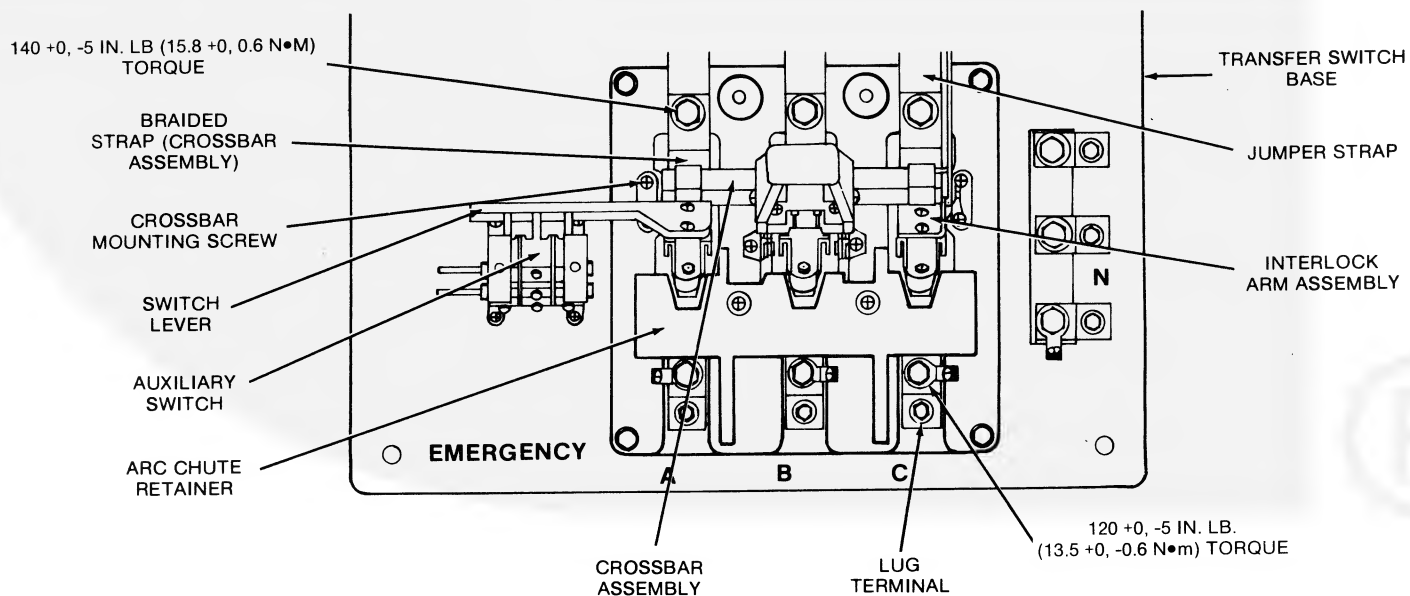

FIGURE 26. TYPICAL 100 AND 150 AMPERE OT TRANSFER SWITCH
8. Remove the normal or emergency lug terminal(s) from the contact(s) you are replacing. (Remove the wires from the lugs first if this makes it easier.) See Figure 26.
9. Remove the two long capscrews, flat washers, and ET lock washers from the arc chute retainer (Figure 26).
17. Remove the switch lever which actuates micro-switches from the crossbar assembly by taking out the two Phillips screws (Figure 26).
18. On the opposite end of the crossbar assembly, remove the interlock arm assembly by taking out the two Phillips screws (Figure 26).
19. Remove the hex head capscrews and washers so the crossbar assembly straps are loose (Figure 26).
20. Remove the crossbar assembly by taking out the eight Phillips screws (save screws). See Figure 26.
30. Install the lug terminals on the new contact straps. Make sure the strap has some antioxidant, electrical joint compound on mating surface before securing lug terminal with existing hex head bolt. Tighten bolt to torque of 120 in. lb (13.5 N•m). See Figure 26.